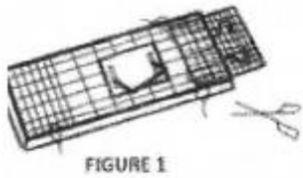

FIGURE 1
1. Remove the cable ties holding the trap closed (Fig. 1)